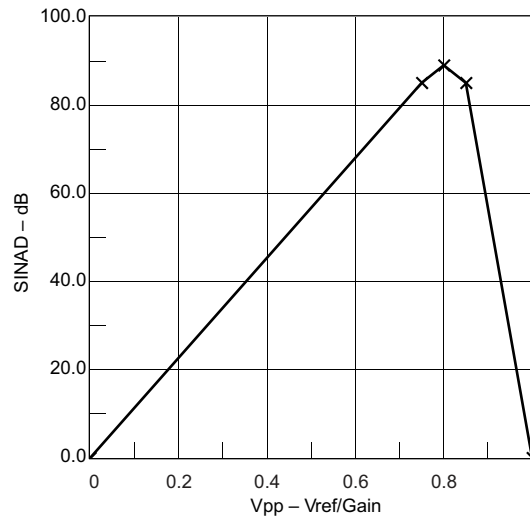

Figure 5-18. SINAD vs Vpp
(1) The following voltages were applied to the SD24_B inputs: $V_{I,A+}(t) = 0\text{ V} + V_{PP} / 2 \times \sin(2\pi \times f_{IN} \times t)$ and $V_{I,A-}(t) = 0\text{ V} - V_{PP} / 2 \times \sin(2\pi \times f_{IN} \times t)$ resulting in a differential voltage of $V_{ID} = V_{I,A+}(t) - V_{I,A-}(t) = V_{PP} \times \sin(2\pi \times f_{IN} \times t)$ with V_{PP} being selected as the maximum value allowed for a given range (according to SD24_B recommended operating conditions) (also see Figure 5-18).